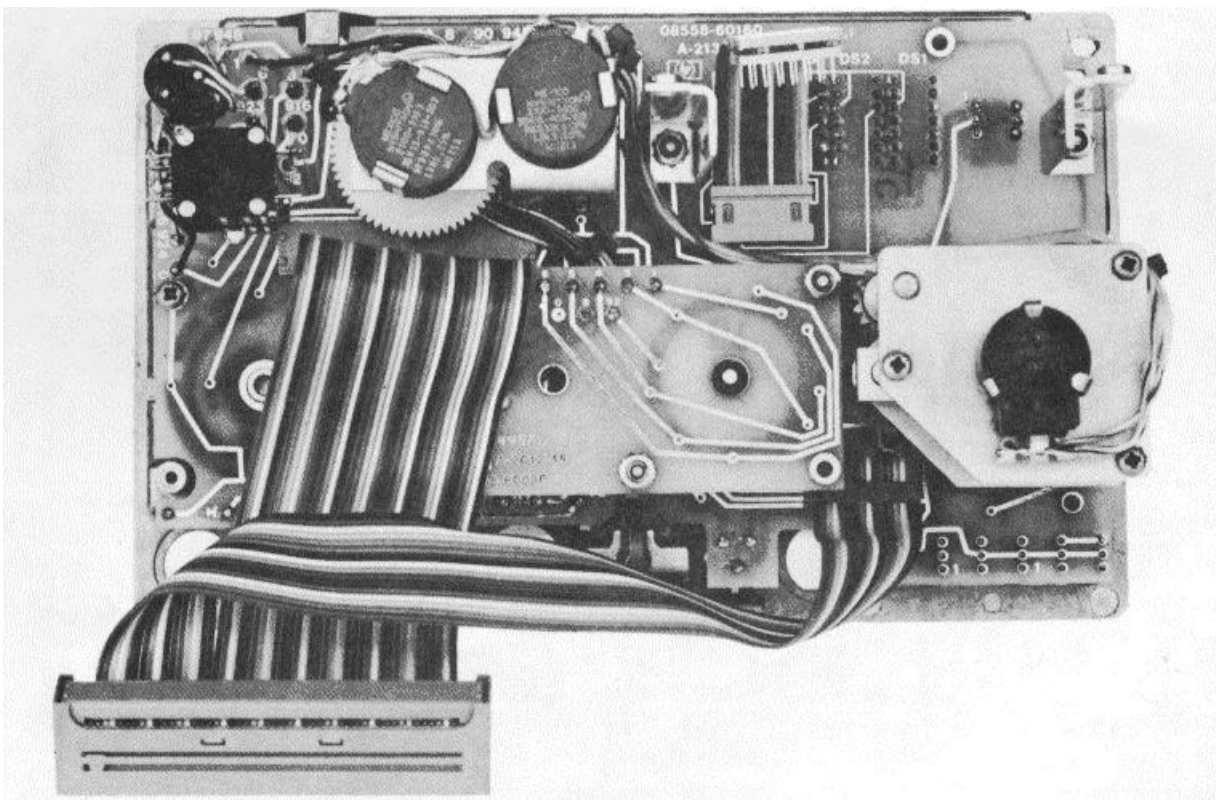

Figure 8-53. Rear View of Front Switch Assembly A2
**Hollow Ref Level Shaft (6) might be damaged if set screws in Rotating Lockout (70) are tightened excessively.**
- f. Place Rotating Lockout (70) on Ref Level Shaft (6) with teeth flat against Ref Level Detent (68). Lockout teeth should be aligned to miss pin on Ref Level Detent when Ref Level Shaft is pushed in (switch in any detent position). With Ref Level Shaft fully extended from front panel, use a no. 4 hex wrench to tighten Rotating Lockout.
- g. Push Ref Level Shaft (6) in and out and check for smooth mechanical feel and proper Rotating Lockout (70) alignment. Rotating Lockout should not bind against Ref Level Detent (68) and should allow Ref Level Shaft to turn smoothly between detent positions. Adjust Rotating Lockout as necessary for proper operation.
- h. Use a no. 4 hex wrench to lightly tighten one set screw in front Anticrush Drive Hub (7) visible between Attenuator Drive Rotor (8) and Front Switch Diecast (1).
- i. Turn Attenuator Drive Rotor (8) so that long pin (for Input Attenuator pointer) is at bottom of Front Switch Diecast (1). Hold Attenuator Drive Rotor in position and push in on Ref Level Shaft (6) to align front Anticrush Drive Hub (7).
- j. Push Ref Level Shaft (6) in and out while observing Ref Level Rotor (67) and Attenuator Drive Rotor (8). Rotors will not move when front Anticrush Drive Hub (7) is properly adjusted.
- k. Use a no. 4 hex wrench to firmly tighten both set screws in front Anticrush Drive Hub (7). Recheck Ref Level Shaft (6) as in step j, and readjust front Anticrush Drive Hub as necessary.
- l. Slip Miter Gear (57) over Attenuator Shaft Assembly (17). Do not tighten at this time.
- m. Inspect Ref Level Fine Assembly (35, 36, 72-76). Ref Level Fine Shaft (72) should turn smoothly. Check Ref Level Fine Potentiometer (76) and connecting wires for good electrical connections. Lightly grease Ref Level Fine Shaft and hollow Index Disc Locator (71) shaft.
- n. Install Index Disc Locator (71) on Front Switch Assembly. Hole in locator bar rides over left-most Standoff (69) used to support Ref Level Fine Pot Plate (75). Install Ref Level Fine Assembly (35, 36, 72-76) on Front Switch Assembly with three Screws (54). Connecting wires should be routed as shown in Figure 8-53. Ref Level Fine Shaft (72) should turn smoothly without binding over its full rotation. Adjust position of Ref Level Fine Pot Plate as necessary.
- o. Use a new tiewrap to attach Ref Level Fine connecting wires to Standoff (69) as shown in Figure 8-53.
- a. Mount RF Input Attenuator to Attenuator Bracket (55) using two Screws (53). Check all eight attenuator positions by hand for proper detent action and smooth operation. Leave attenuator in full counter-clockwise position.
- b. Slide Miter Gear (57) to end of Attenuator Shaft Assembly (17) against Ref Level Fine Pot Plate (75). Set Attenuator Assembly in place on Front Switch Assembly, with notch in Attenuator Bracket (55) lightly greased and aligned with Attenuator Shaft Assembly. Use Washer (56) and Screw (19) to fasten Attenuator Bracket to lower left corner of Front Switch Diecast (1). (Do not tighten Miter Gear at this time.)